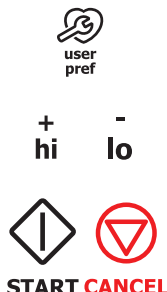

Figure 8: Clock on (L) or off (R) display
1. Press **user pref** until **clock display** mode appears (See Figure 8).
2. Use **hi +** or **lo -** on either side of the zero (0) on the numeric keypad to toggle to the **CLO off** option.